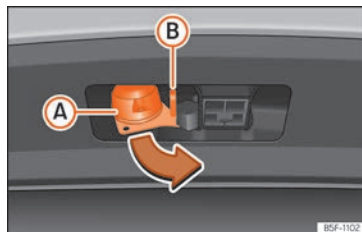

Fig. 190 Turning the 13-pin connector
- Grip the connector in area (A) and remove it in the direction of the arrow »» Fig. 190.
- Open the cover of connector (A) and connect the trailer »» Fig. 190.
- Hook the trailer's pair cable to the safety lug »» Fig. 190 (6). When hooked up, the pair cable should have some **slack** in all vehicle towing positions (sharp curves, reverse, etc.).